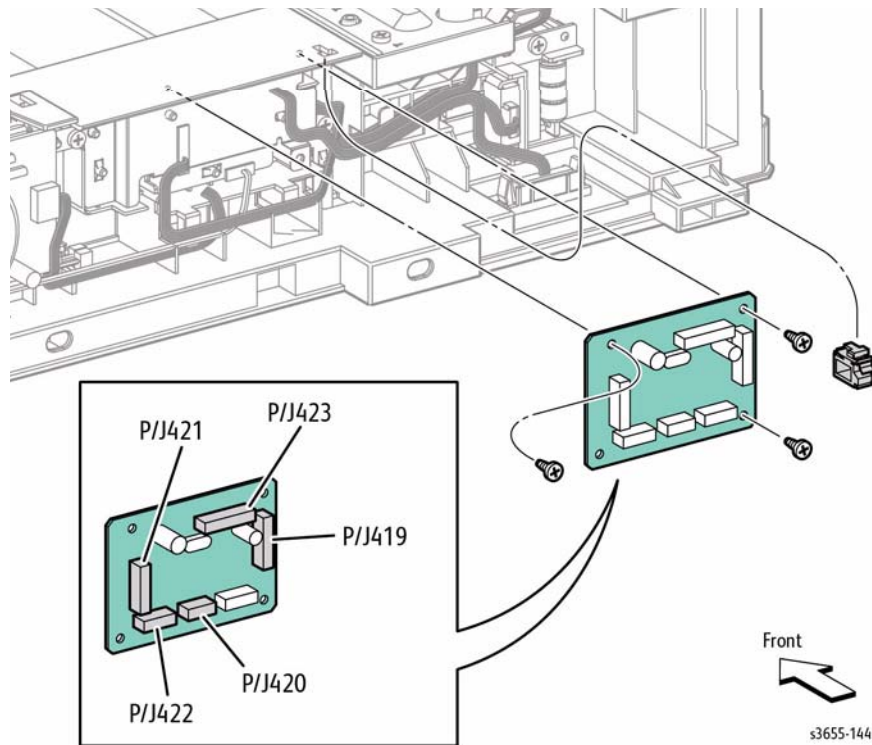

Figure 1 Remove the Feeder Board
4. Refer to Figure 1 to locate and disconnect all Optional Feeder Board connections.